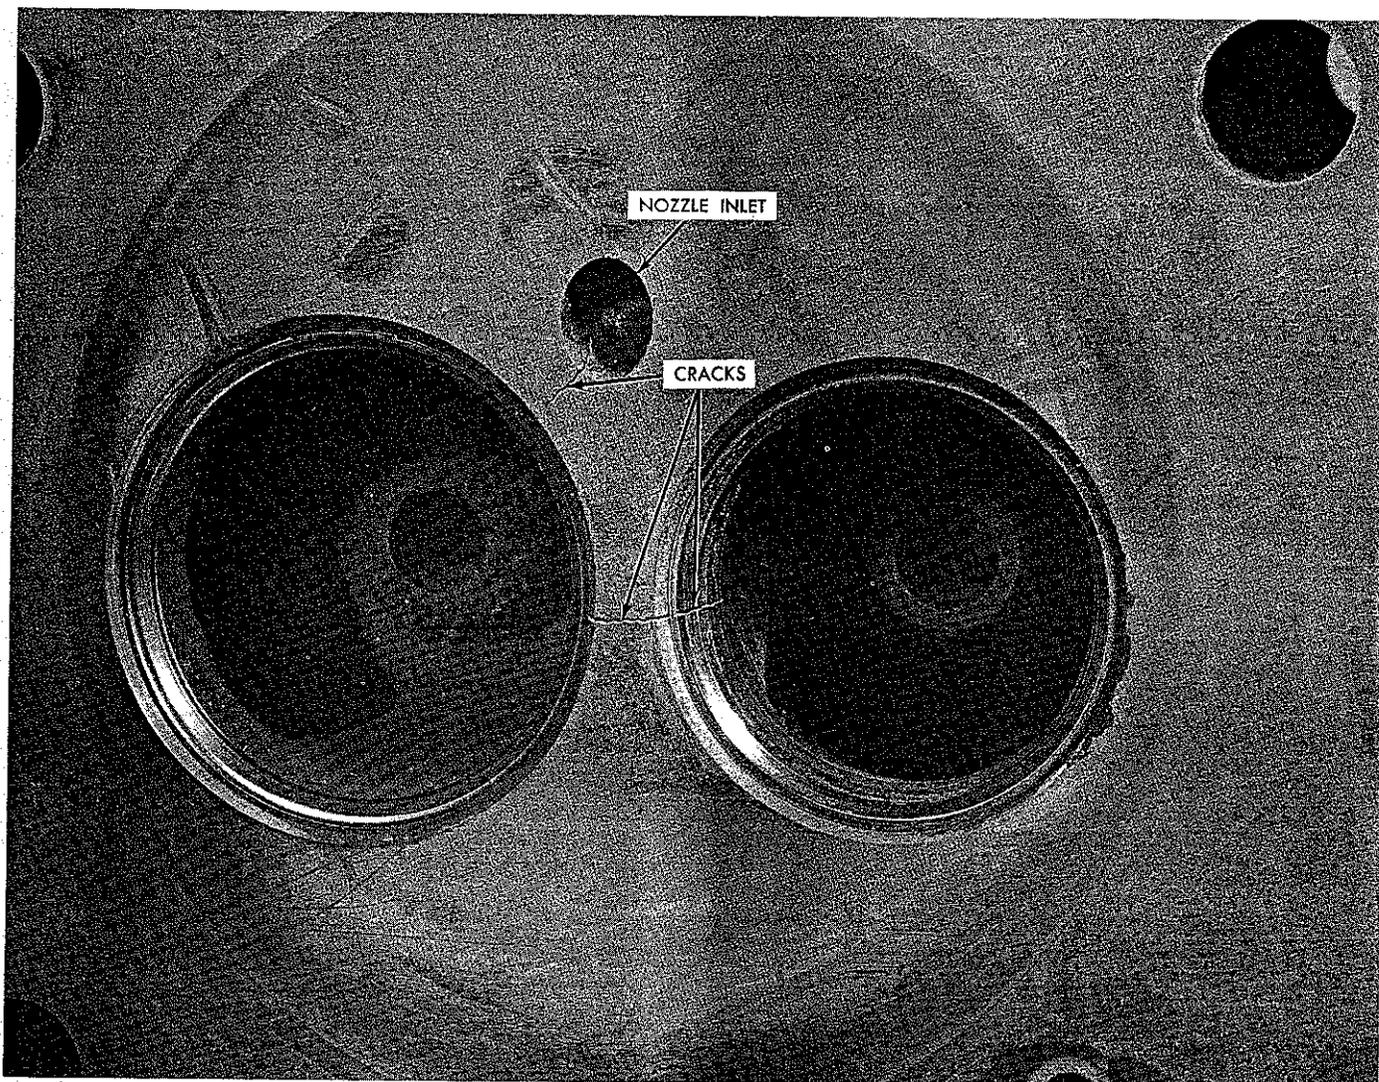

Figure 65
- (1) Cylinder head gasket surfaces must be clean and free of any carbon build up. If surfaces require cleaning, exercise extreme caution when cleaning. Any deep scratches or gouges in gasket surfaces can cause a head gasket failure.
- (2) Inspect heads for cracks. Cracks are frequently found in two areas, between the intake and exhaust valve seats and extending out radially from the injection nozzle inlet, Figure 65. Cracks do not necessarily mean that the head is unserviceable. When cracks are found, pressure check the head to find